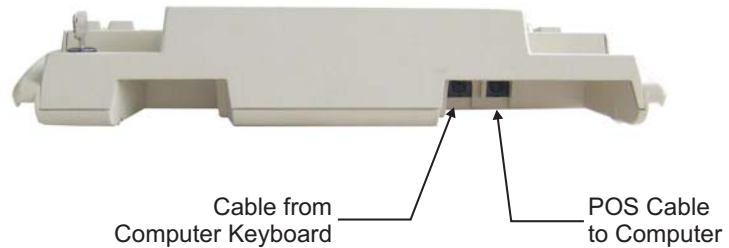

Figure 3.10 Rear of POS Keyboard
5. Insert the computer keyboard cable into the POS keyboard as shown in Figure 3.10. We recommend you add the clamp described below to prevent damage to the POS keyboard or even to the computer (if the cable is plugged into the wrong port).